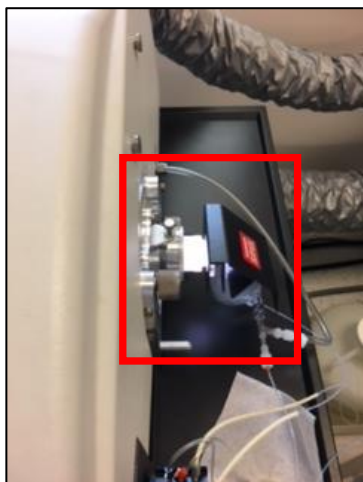

Figure 10: Lit plasma (white glow) at instrument interface.
- c. When the plasma lights, you will see a white glow from the instrument interface (**Figure 10**).